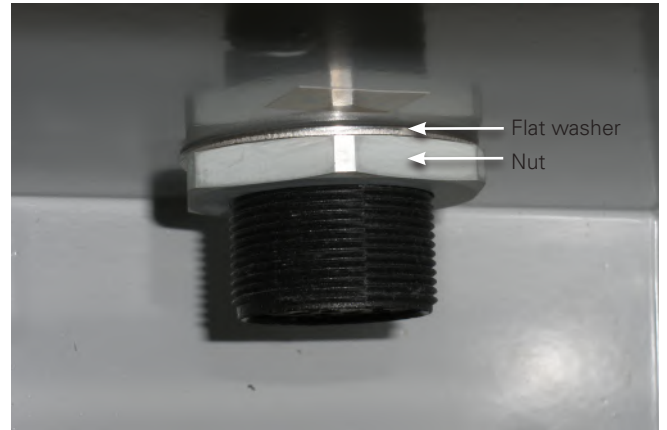

Figure 18. Securing control cable to box.
3. Inside the control box, place the flat washer and nut onto the threads as shown in Figure 18. Tighten the nut snugly using a 1-3/4" open-end wrench while holding the cable on the outside of the box.